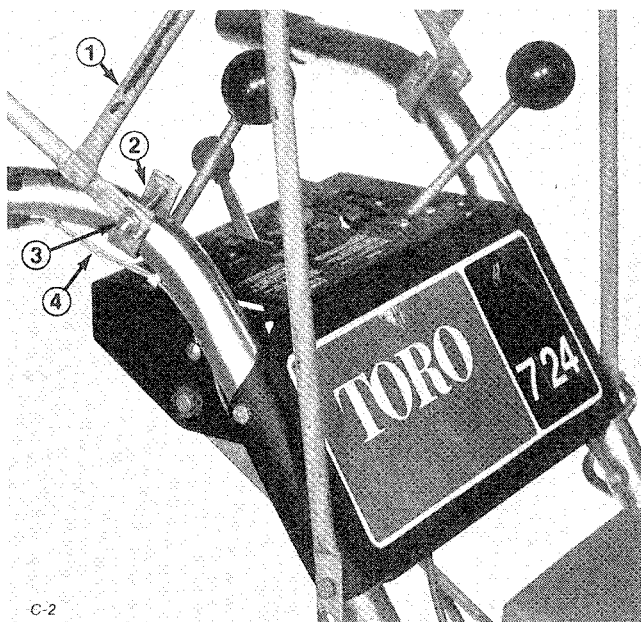

Figure 6
3. Mount rear of frame assembly to handles with U-clamps, (1/4-20 x 2.00") capscrews, and locknuts (Fig. 6).
IMPORTANT: to ensure proper operation of the interlock levers, "U" clamps must be installed to handles with wires on outside of clamps (Fig. 6).